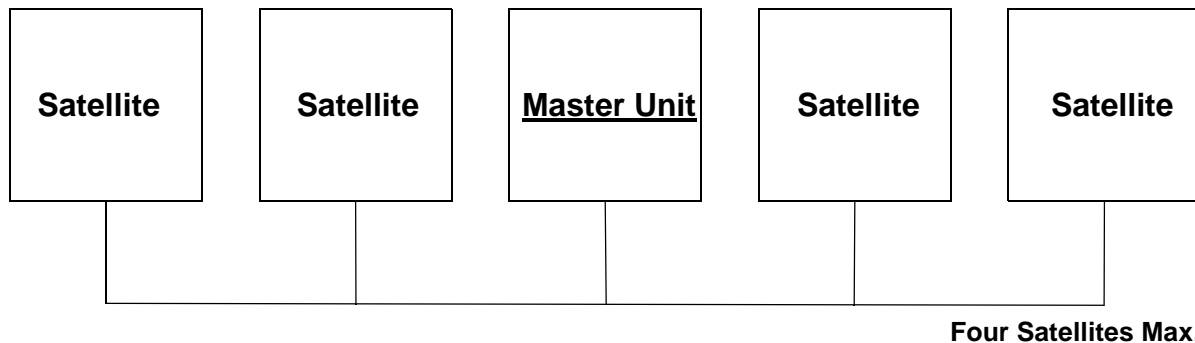

Figure 5-1 Block diagram of the 5000 Entry System Hub
- Only one unit in the system can be used as a Master unit all other units must be programmed as a satellite unit (see Figure 5-1). Each satellite unit must use a unique SBUS ID. (See Section 3.5.7 for wiring and configuring a master and satellite panels.)